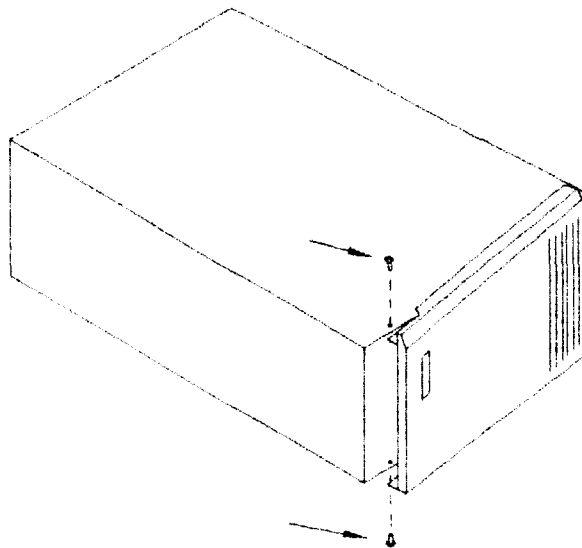

Figure 8-8.
1. The *front panel* is held by two Pozidriv screws as shown in Figure 8-8 or 8-9.